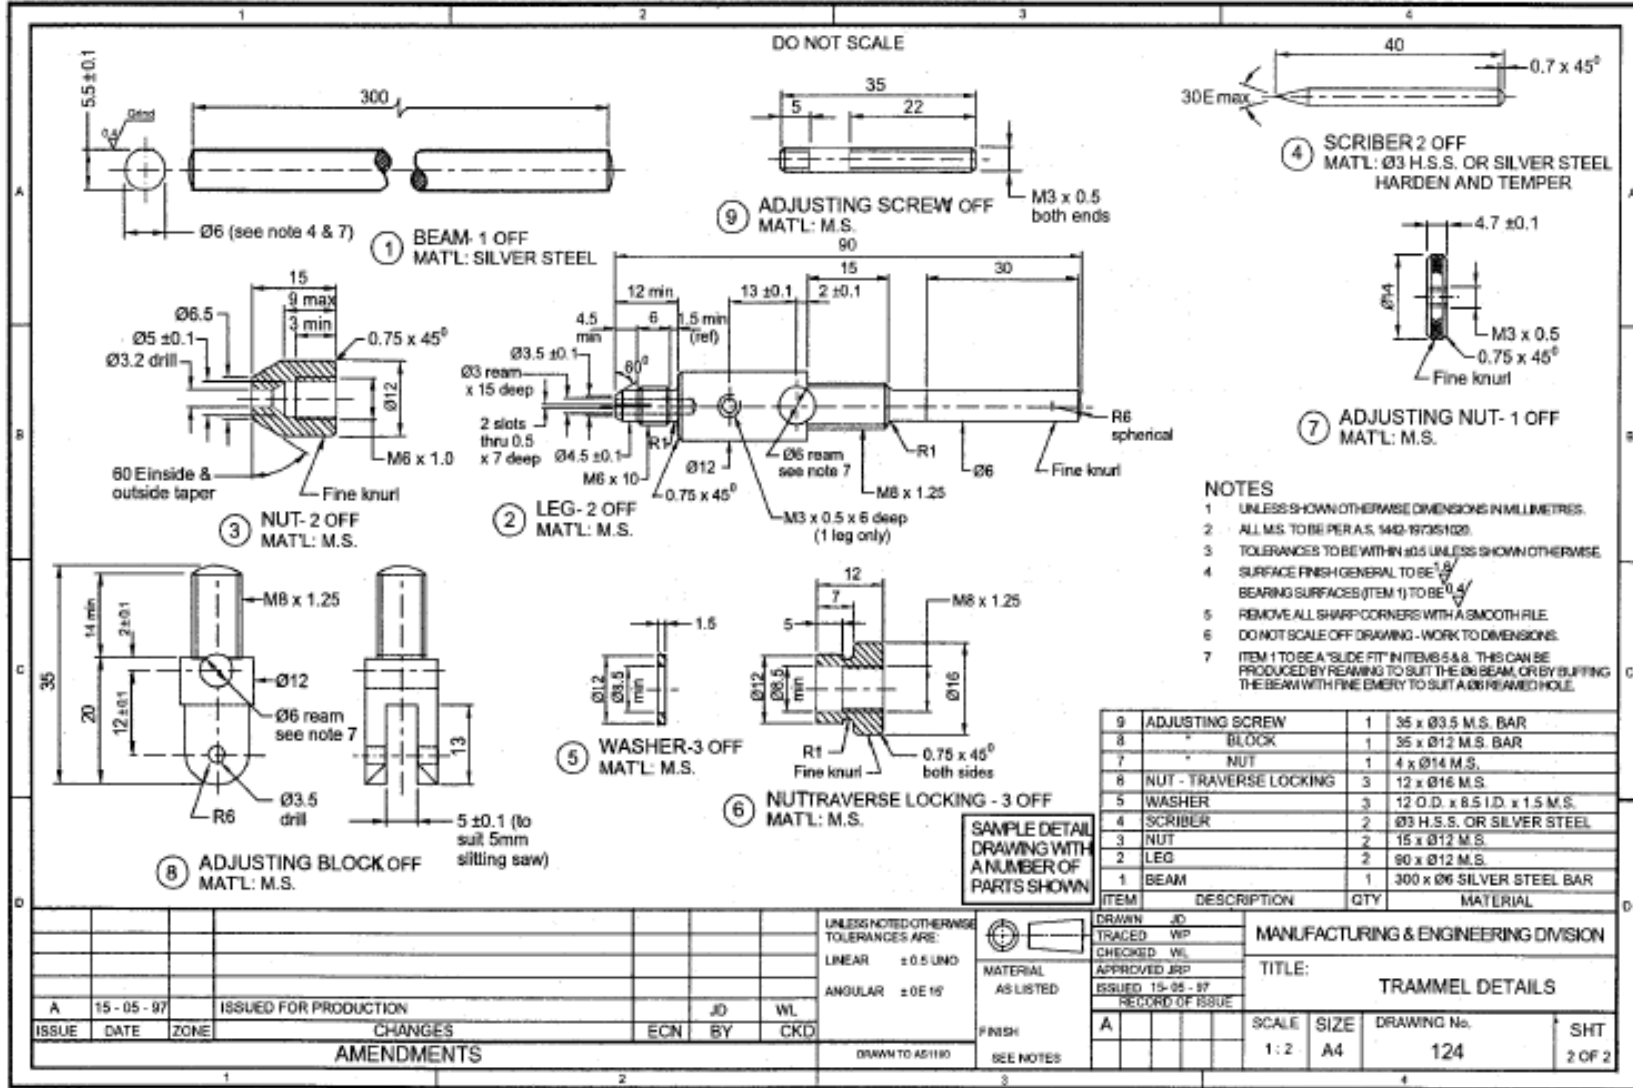

Fig. PF-4-1-12 Example of a Detail Drawing (Details of parts required for assembly of Fig. PF-4-1-11)
- A detail drawing (See **Fig. PF-4-1-12**) is a drawing of a part or component which provides all the information needed to fabricate the part.